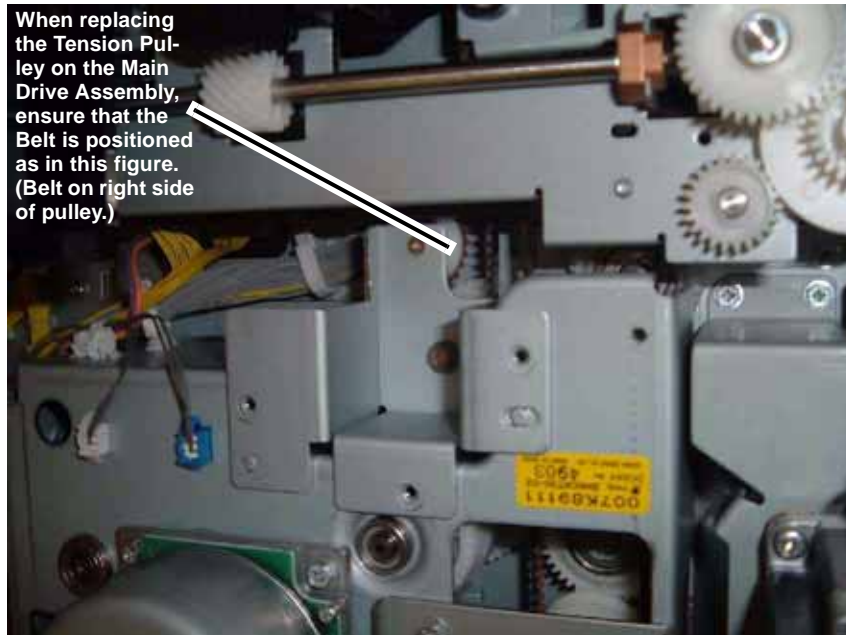

Figure 8 Belt position on the Tensioning Pulley
1. When replacing the Main Drive Assembly, ensure that the Belt is positioned to the right of the Tension Pulley (on the Tensioning Bracket) (Figure 8).